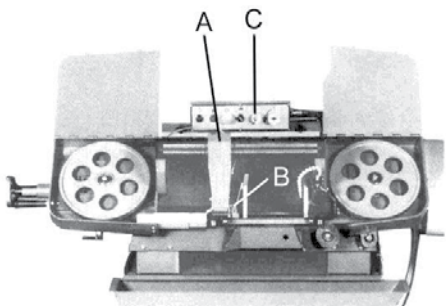

Figure 3. Operating Controls
7. Turn hydraulic oil switch clockwise to raise the saw frame, then turn off the hydraulic oil switch (Figure 3, item C).
9. Make sure the left blade guide bracket (A) is adjusted as close as possible to the left vise jaw (B). A loose blade guide will affect cutting accuracy.
10. Turn the hydraulic oil switch (C) counter-clockwise until the saw blade begins to lower at the desired rate.